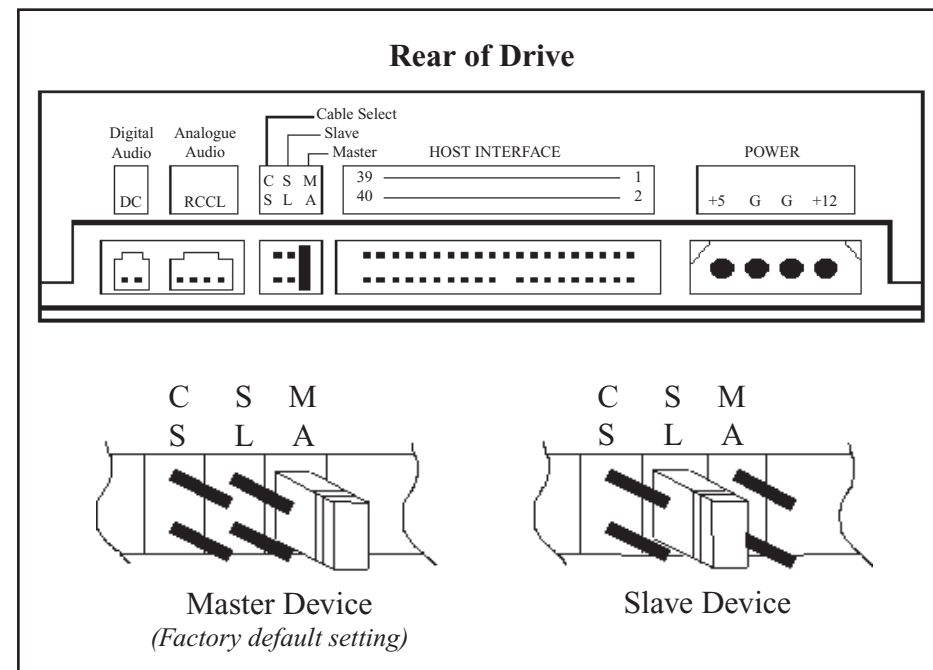

Figure 1
- 1 Set the Master/Slave jumper on CD-ROM rear panel (refer to figure 1)
- 3 Connect the power supply cable to the CD-ROM drive. (Ensure the pin definition of power connector is the same as shown in figure 1).
- 4 Connect the 40 pin IDE / ATAPI cable to the CD-ROM drive according to the description in figure 1 (Note: Pin 1 on the cable is generally indicated by a red stripe along the edge of the ribbon cable).
There are three pairs of jumpers, MA (Master), SL (Slave) and CS (Cable Select) on the rear panel of your CD-ROM drive. Figure 1 shows the location of each jumper.